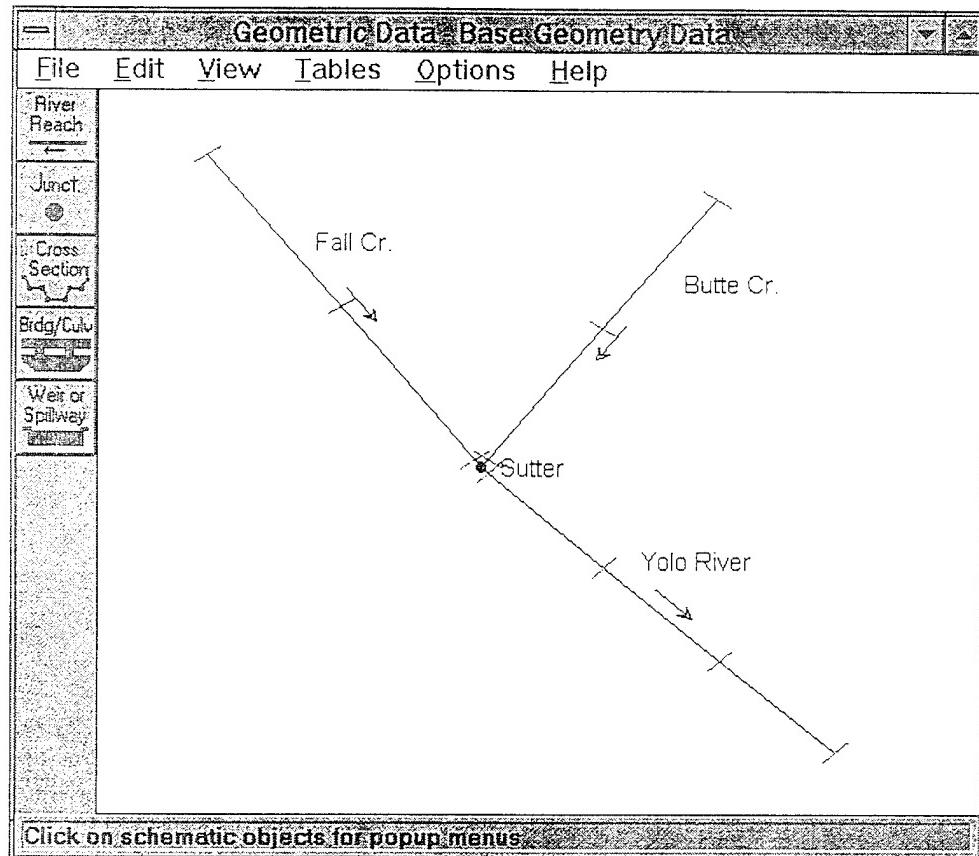
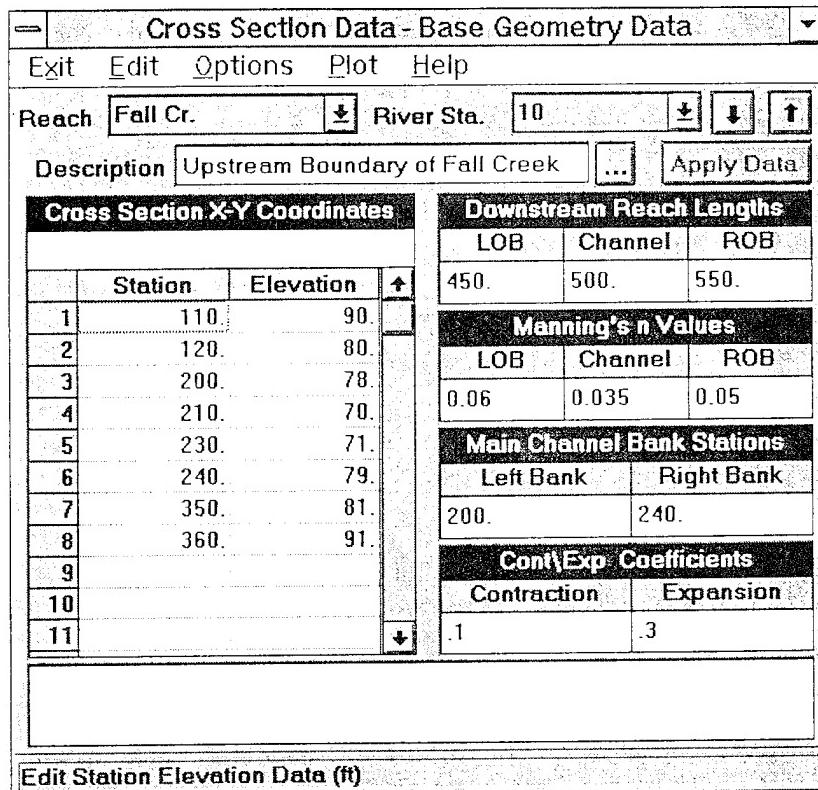

Figure 4.3 Geometric Data Window with example river schematic
Figure 4.4 Cross Section Data Editor with example data
The next step in developing a steady flow model with HEC-RAS is to enter the geometric data. This is accomplished by selecting **Geometric Data** from the **Edit** menu on the HEC-RAS main window. Once this option is selected the geometric data window will appear (Figure 4.3).
In this example we are going to develop a three-reach system as shown in Figure 4.3. Draw in the river system schematic by performing the following steps:
Once you have finished drawing in the river system, there are several options available for editing the schematic. These options include: deleting reaches, changing labels, and moving any objects (objects are labels, junctions, and the ends of reaches). The editing features are located under the **Edit** menu on the Geometric Data window. **Note: when you first draw your schematic there will not be any tic marks representing cross sections as shown in Figure 4.3. The tic marks only show up after you have entered cross section data.**
The next step is to enter the cross section data. This is accomplished by pressing the **Cross Section** button on the Geometric Data window (Figure 4.3). Once this button is pressed, the Cross Section Data editor will appear as shown in Figure 4.4 (except yours should be blank). To enter cross section data do the following:
3. Enter all of the data for this cross section as it is shown in Figure 4.4.